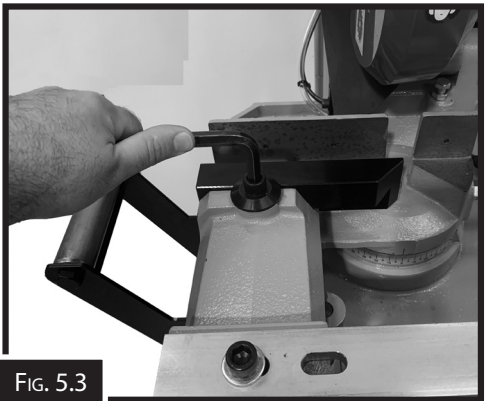

FIG. 5.3
5. To adjust the vise jaw, loosen the vise jaw cap screw until the vise jaw slides freely. Position the vise jaw approximately 12mm away from the blade (Fig. 5.3)